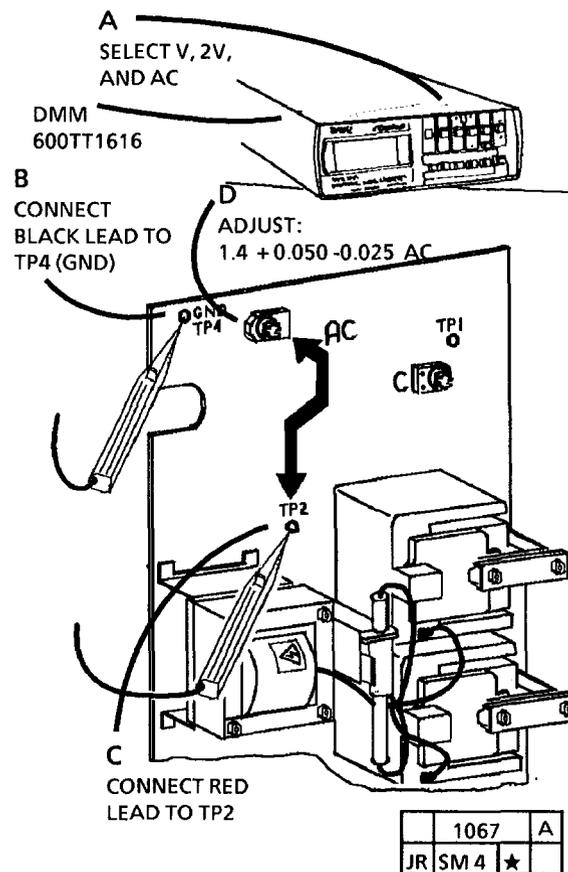

Figure 4. Adjustment of Precharge and Detack Corotrons
11. (FIGURE 4): ADJUST PRECHARGE AND DETACK COROTRON VOLTAGE.